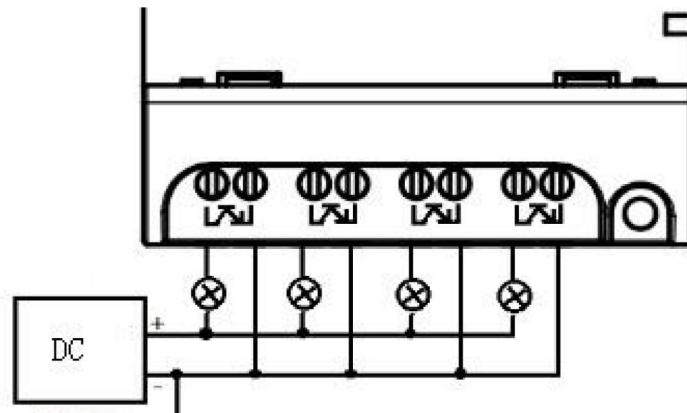

Fig 2.10 Transistor Output (D type)
1) Type D connection is shown in Fig 2.10.